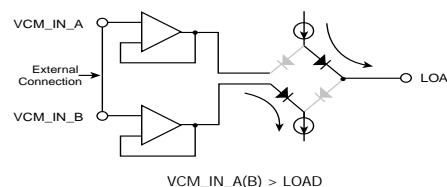
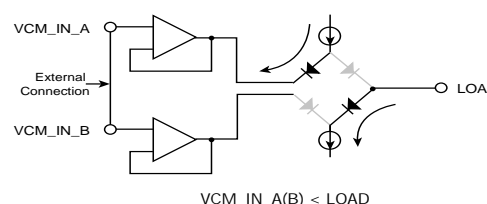
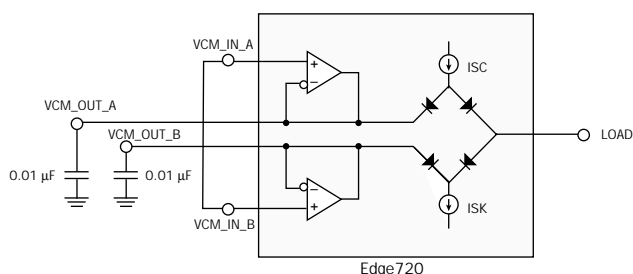

Figure 13. Edge720 Load Circuit Sources Current
Figure 14. Edge720 Load Circuit Sinks Current
Figure 15. Edge720 Load Circuit Connected as a Standard Active Load
VCM_IN_A(B) are high impedance analog voltage inputs to on-chip buffers that are used to set the voltage level at which the diode bridge switches from sourcing to sinking current when the load is connected as a standard active load (see Figure 15). If the voltages applied to VCM_IN_A(B) are more positive than that on the LOAD pin, the bridge will source current from the LOAD pin (see Figure 13). If the voltage applied to VCM_IN_A(B) is less than that at the LOAD pin, the bridge will sink current through the LOAD pin (see Figure 14).
One way to configure the load circuit of the Edge720 is as a standard active load. In order to operate the load as a standard active load, VCM_IN_A can be connected to VCM_IN_B and driven with the same source as shown in Figure 15. The 0.01 μF bypass capacitors shown in Figure 15 are needed to supply current to the diode bridge during fast transients. These capacitors should be placed as close to the VCM_OUT_A(B) pins as possible to ensure stability and quick response to fast transitions on the LOAD output pin.